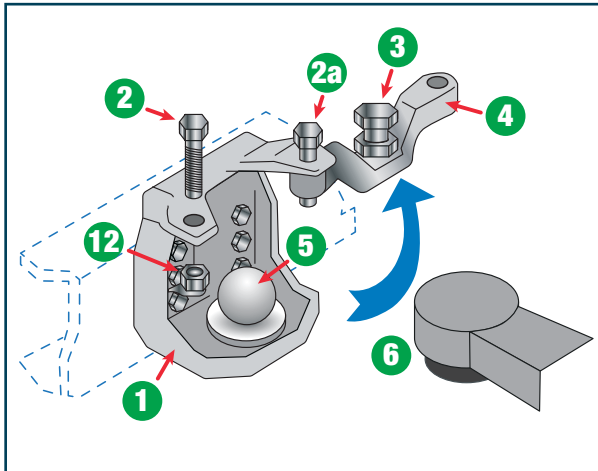

Figure 6.12
Step 1. Remove Safety Lock screw and Rotate Safety Cover Bar (Figure 6.12)
- Remove safety lock screw (2), recover and keep the relative self-locking nut (12) aside then also loosen safety lock screw (2a) and turn out the adjustment screw (3) by at least five turns. Rotate the safety cover bar (4) outwards so that it is completely open.
- Reverse truck very slowly until the ball cup drawbar eye (6) is in position exactly above the drawbar coupling ball (5).
- Lower the drawbeam until the ball cup drawbar eye (6) lies completely covering the drawbar coupling ball (5).
- Reverse Rotate the safety cover bar back inwards (4) and fit in safety lock screw (2) together with its locking nut. Tighten in both the lock screws (2, 2a) together with their relative self-locking nuts (12, 12a) at a 350 to 400 Nm torque wrench setting.